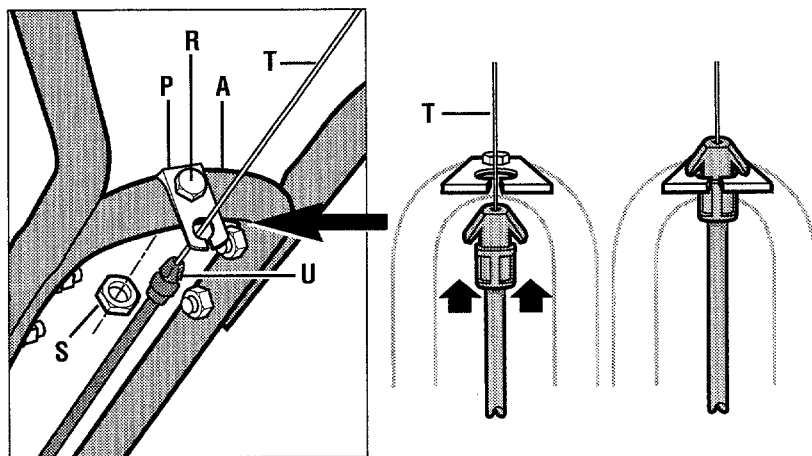

Fig. 2-4: Installing forward clutch cable bracket and cable.
1	Bracket, forward clutch cable (see P, Fig. 2-4, page 8)
1. Attach the forward clutch cable bracket (P, Fig. 2-4) to the handlebar support (A) with a 1/4"-20 x 1-1/4" hex hd. screw (R, Fig. 2-4) and 1/4"-20 hex locknut (S). Tighten securely.
2. Carefully unwrap the forward clutch cable (cable without a knob) from its shipping position and slide the thin cable wire (T, Fig. 2-4) into the slot in the cable bracket. Push the cable connector (U, Fig. 2-4) up through the hole in the bracket until the groove in the connector snaps into place.